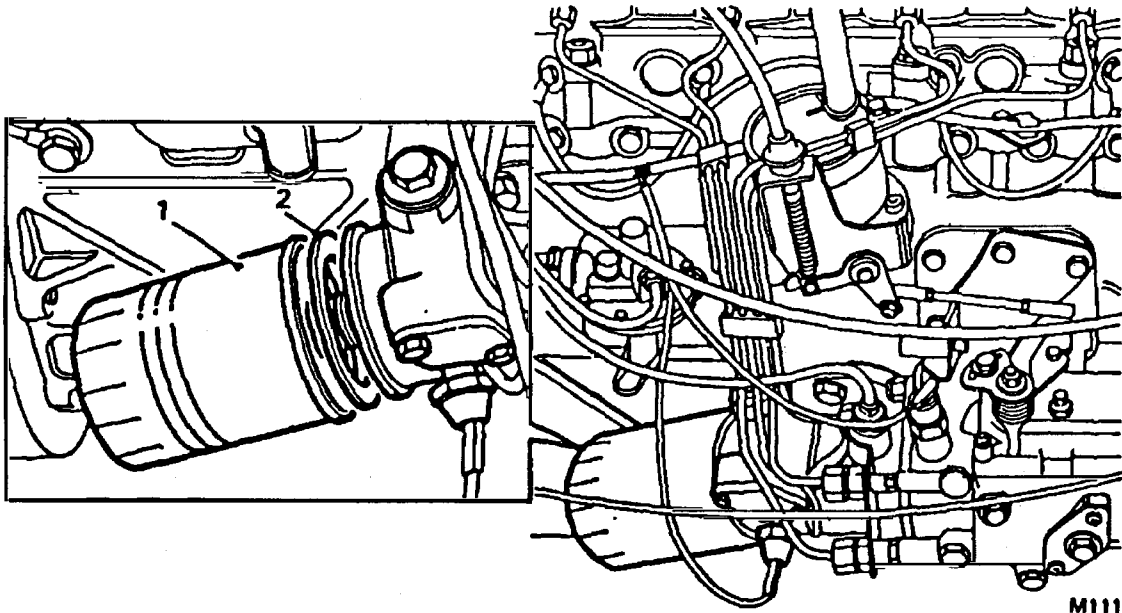

Fig 111 Engine oil filter
11.3.4 Remove the filter Fig 111 (1) using a strap spanner.